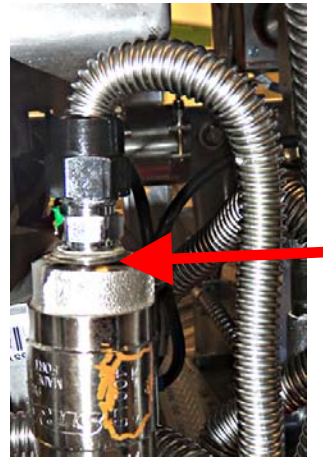

Figure 53
52. Attach other end of flexline to the top of the fitting (see Figure 53).